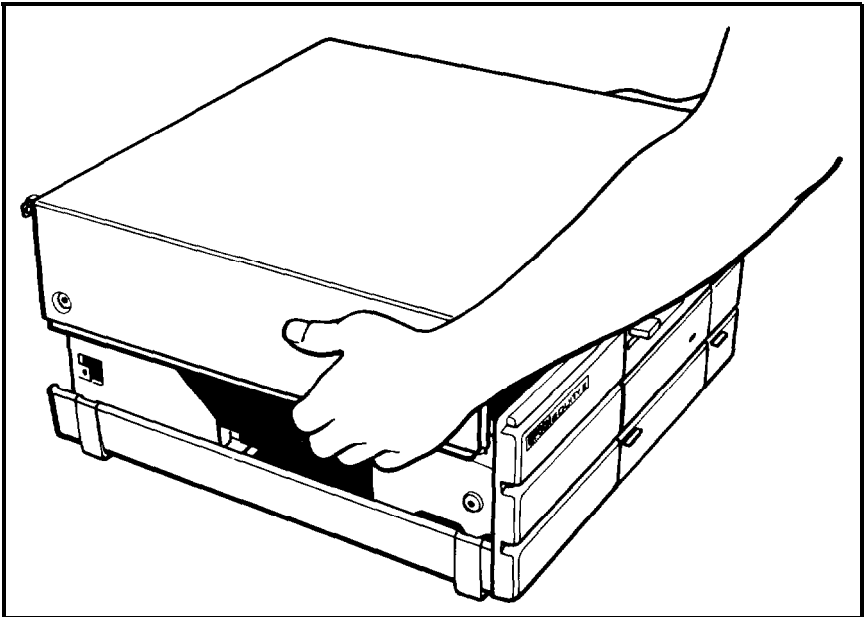

Figure 4-3. Removing the main unit cover
4. Figure 4-3 shows how to tilt the cover up and remove it from the computer. Set the cover aside for now.